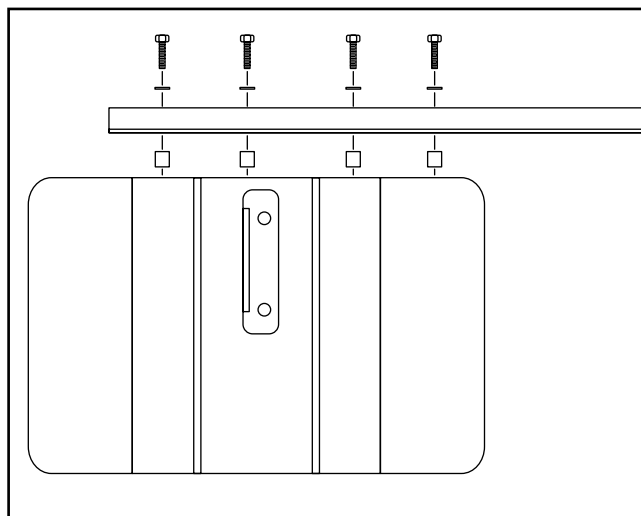

Figure 8. Rear rail attachment procedure.
2. Attach the rear rail to the table top using the spacers, hex bolts and lock washers supplied as shown in **Figure 8**. Place a combination square set to $1\frac{5}{32}$ " at the edge of the table, and adjust the rail so it is consistently $1\frac{5}{32}$ " below the top of the table.